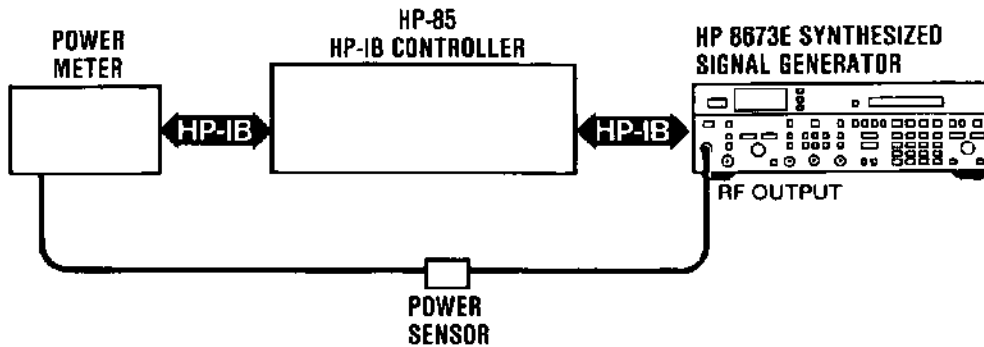

Figure 8-22. HP 8673E Power Output Test Setup
47. Connect the test equipment as shown in Figure 8-22.